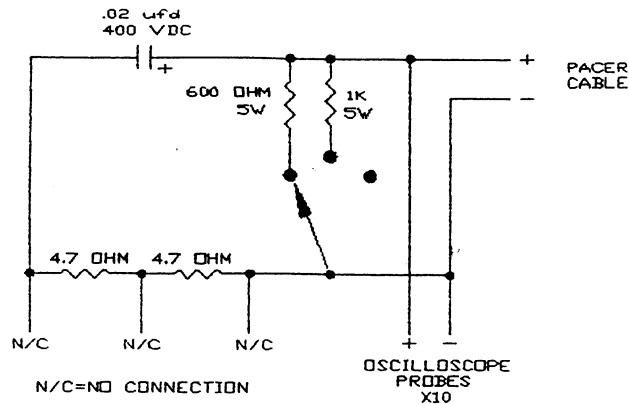

FIGURE 9.4
- 17.1 Using test circuit shown in Figure 9.4, set up an oscilloscope for 10 volts/div and a sweep of 5 ms/div. Connect the pacer leads to the test circuit as shown in Figure 9.4 observing proper polarity.